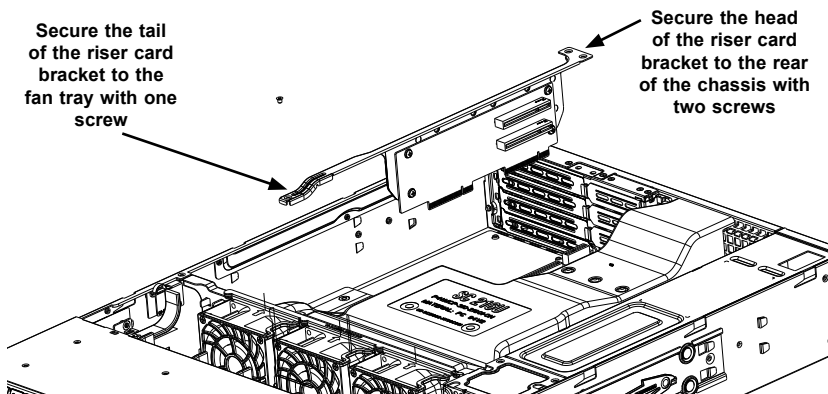

Figure 5-11. Installing the Riser Card Bracket
4. Insert the riser card(s) into the motherboard expansion slot(s) while aligning the riser card bracket with the rear of the chassis. Secure the bracket with screws (Figure 5-11).